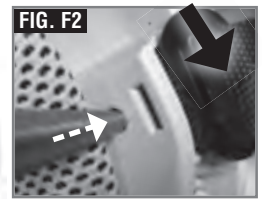

FIG. F3
STEP 3: Press the exposed portion of the release tab as shown in FIG. F3 while gently pulling on the strap to release the tab from the slot.